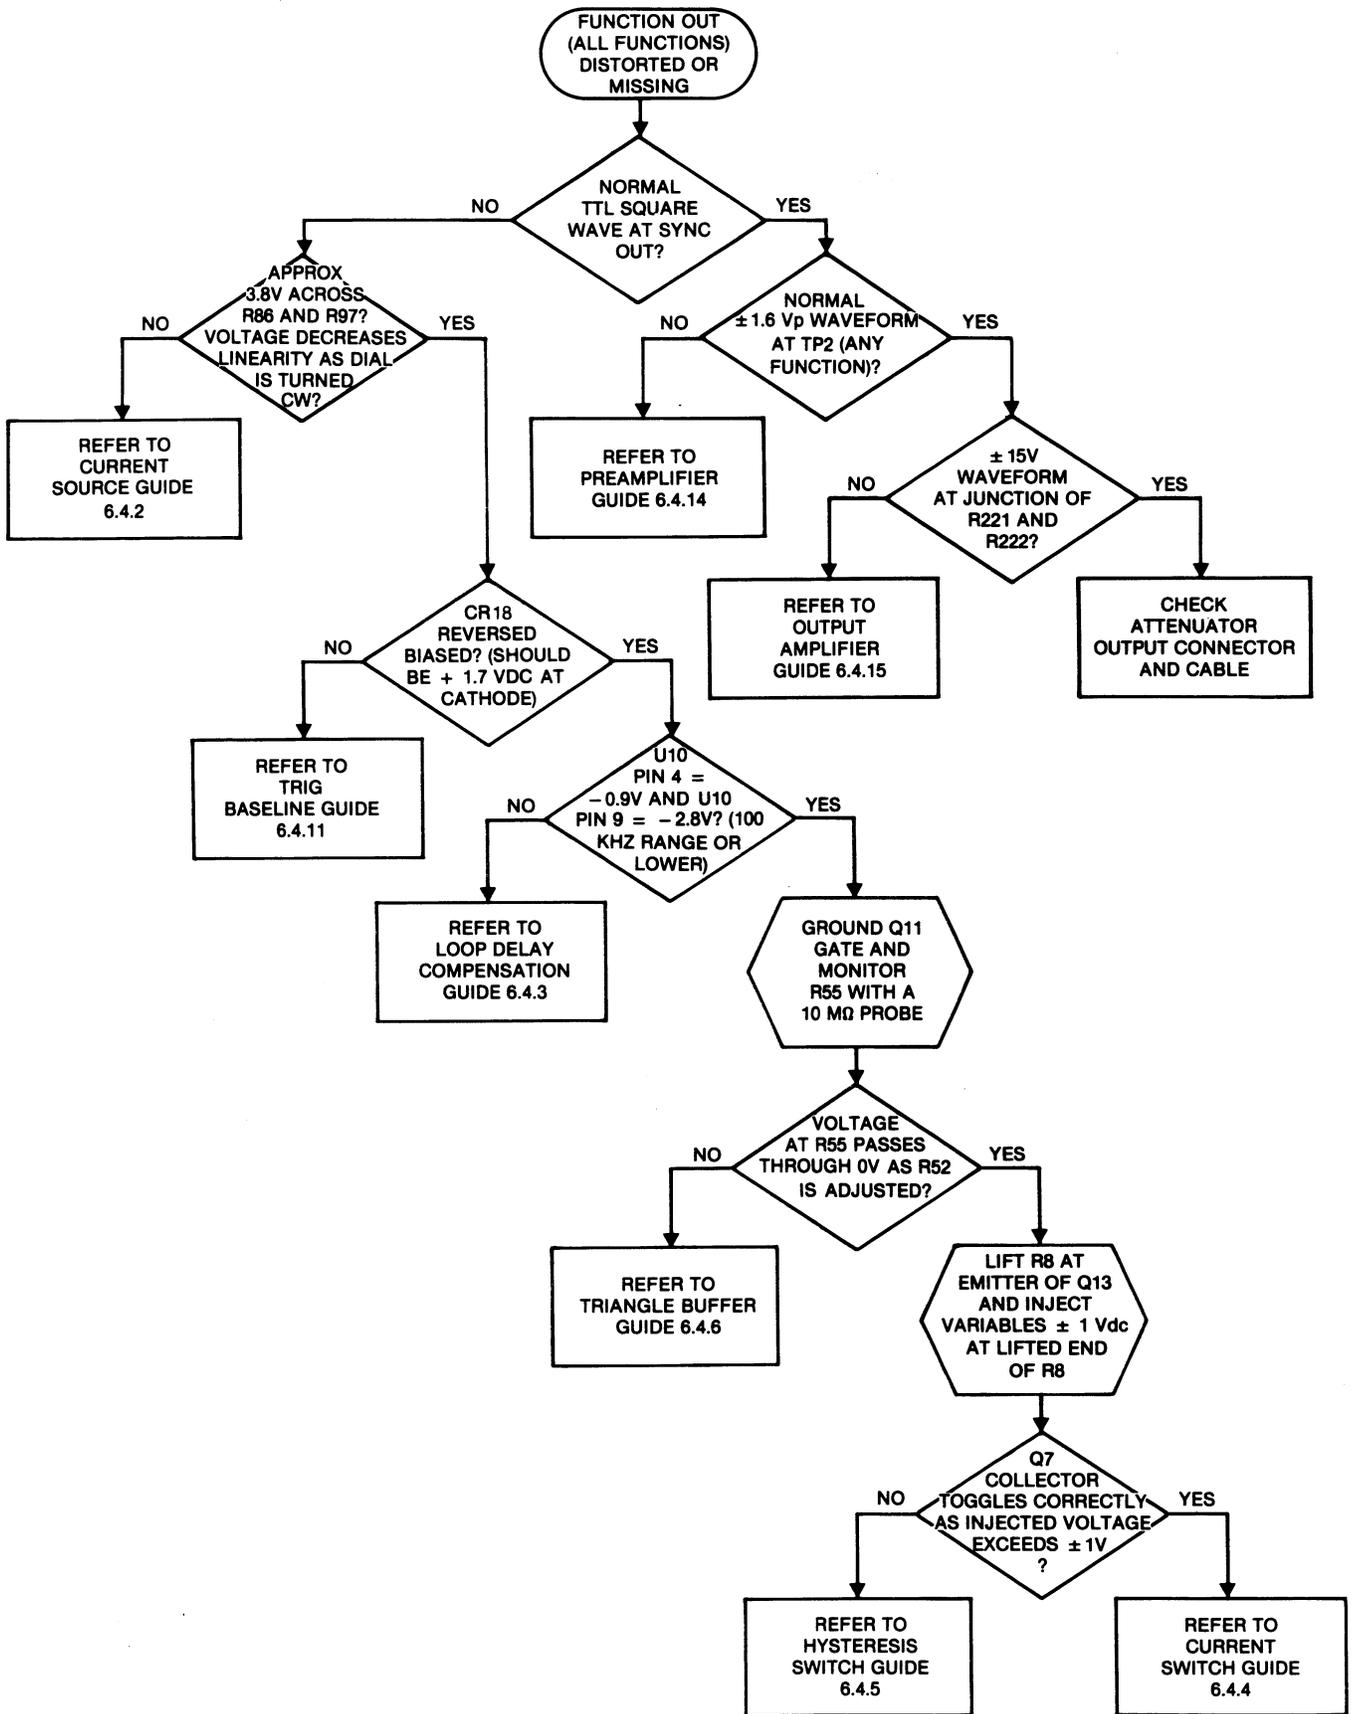

Figure 6-1. Function Output Troubleshooting
4. If the waveform is bad only in 1M or 10M FREQ MULT positions, refer to paragraph 6.4.3. If the delay compensation circuit appears normal, refer to figure 6-1.
6. If none of the above conditions apply, refer to figure 6-1.